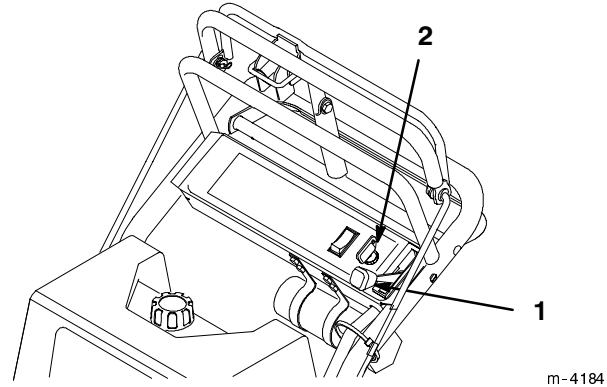

Figure 14
1. Move the throttle lever to “SLOW” (Fig. 14).
2. Turn the ignition key to “OFF” (Fig. 14).